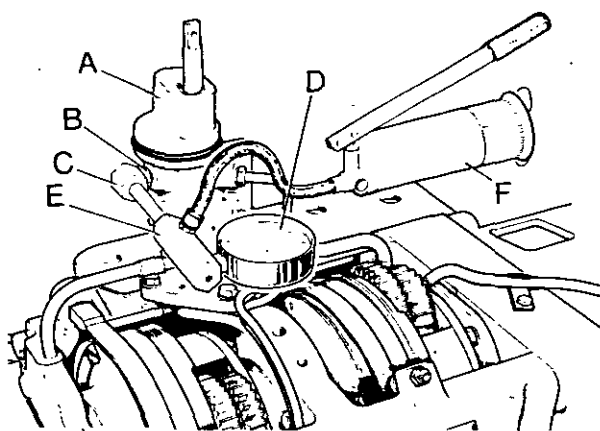

FIGURE 56 BRAKE BAND ADJUSTMENT
4. Connect the brake band piston actuator and the pressure gauge to the front sequence valve connection in the spool valve body, see figure 56. Put the valve spool in the upper, first gear position.